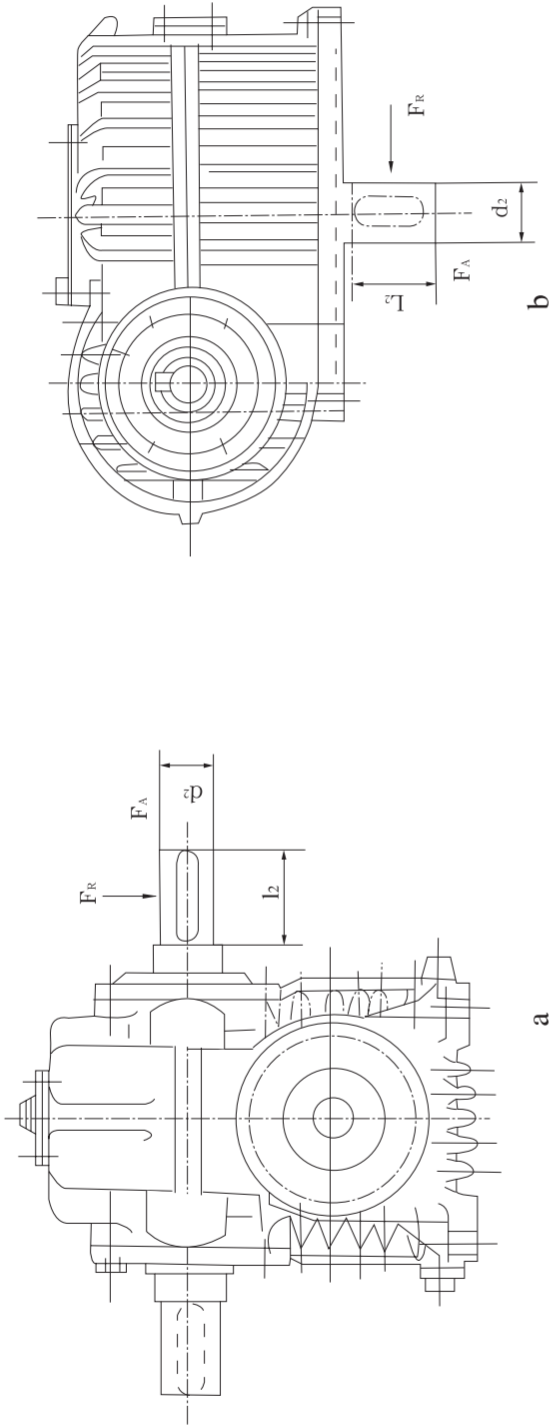

图7 Figure 7
式中： F_R ——输出轴轴端径向许用负荷，见图7中的a；
In which, F_R —— allowed radial load for shaft end of output shaft, refer to 'a' in figure 7.
- F_A —— 输出轴轴端轴向许用负荷,见图 7 中的 b;
allowed load for shaft end of output shaft, refer to 'b' in figure 7;